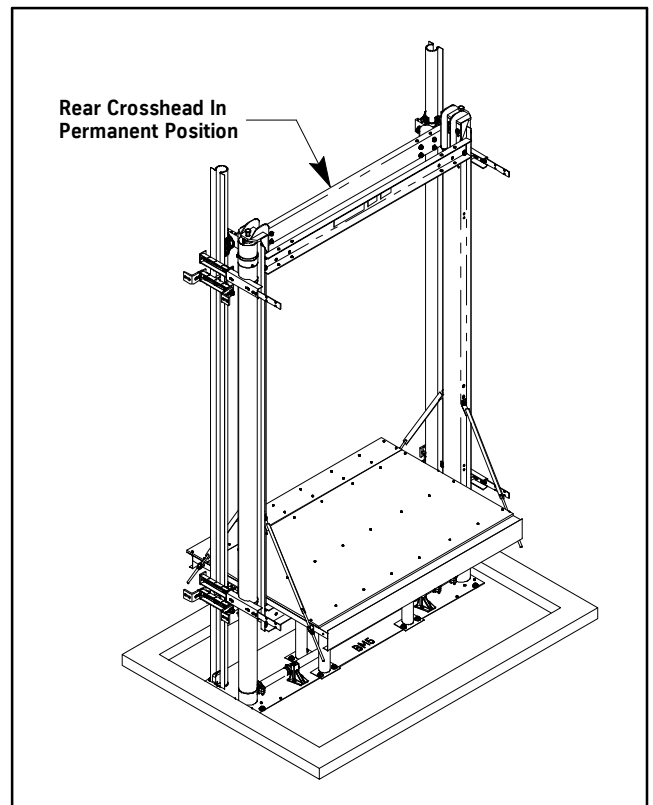

Figure 23
1. With the car at the first landing, remove the rear crosshead channel from the stiles and raise it up to its permanent location at the top of the stiles. See Figure 23.